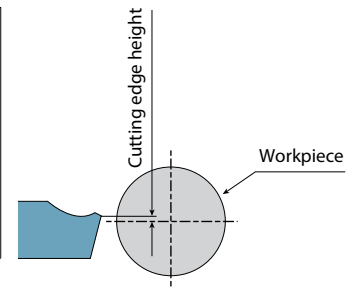

Fig. 3 (PKM, PKM^{R/L}, TKN, TK^{R/L})
1. For PKM, PKM^{R/L}, TKN and TK^{R/L}, set the cutting edge height 0.1~0.2 mm above the center height (Fig. 3)